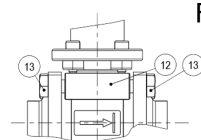

Fig.9
5. Put on the 4th screw (13), spacer (12) and nut (17).
6. Orientate the valve body as required around the pipe and tighten screws (13) and nuts (17) according to the above torque values. In case of valves with stainless steel threaded spacers, make sure the spacers (12) are evenly tightened and positioned in the middle (Fig. 9)
5. Put on the last screws (13), and nuts (17).
6. Guide the valve body as required around the pipe and tighten screws (13) and nuts (17) according to the above torque values. In case of valves with stainless steel threaded spacers, make sure the spacers (12) are evenly tightened and positioned in the middle (Fig. 9)